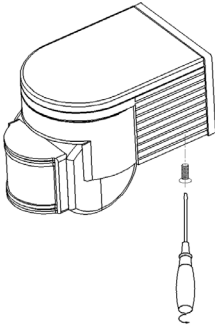

Fig.1
- Loosen the screw on the bottom and unload the bottom (refer to figure 1).